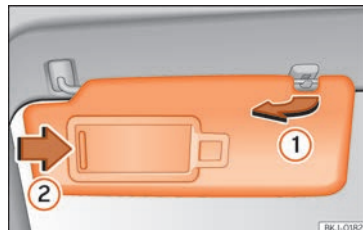

Fig. 148 Sun visor on the driver side.
- The sun visor can be pulled out of its mounting and turned towards the door $\gg$ **Fig. 148** (1).